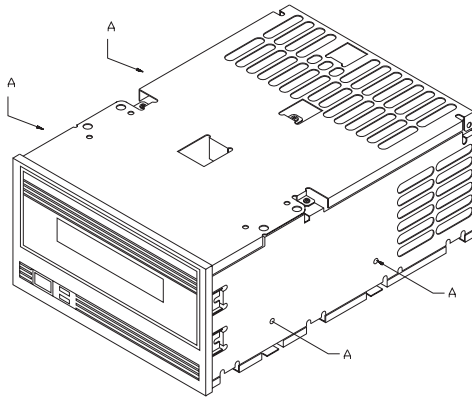

Figure 14 Mounting holes on the sides of the tape drive
The main housing of the tape drive includes two sets of mounting holes (one set on the sides and one set on the bottom, as shown in Figures 14 and 15) to allow for a number of mounting positions. These mounting holes accommodate #6-32 screws. Refer to the *EXB-8500 and*
- Use either the four mounting holes on the sides or the four mounting holes on the bottom ("A" or "B," as shown in Figures 14 and 15). Using combinations of mounting holes from different sets may distort the frame.